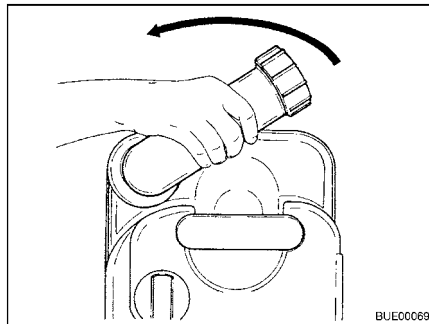

Fig. 270 Turning drainage neck
- Turn the drainage neck upwards (Fig. 270).